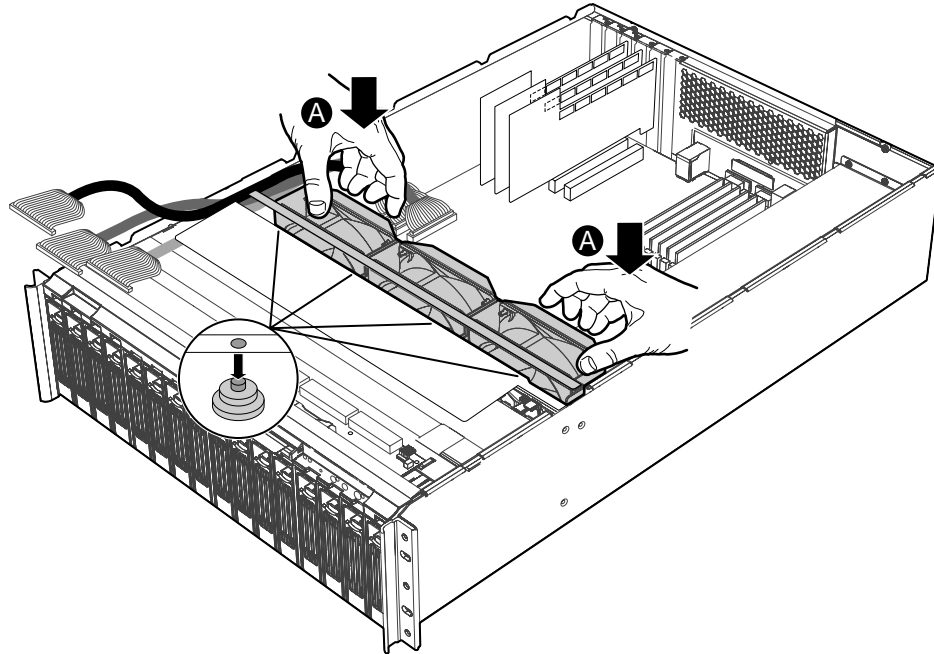

Figure 17. Re-inserting the Fan Assembly into the System
- A. Remove any slack wires away from the space that is occupied by the fan assembly. Align the holes on the bottom edge of the fan assembly with the outer edges of the blue plastic brackets on the bottom of the chassis. Move the fan assembly into place. See Figure 17.